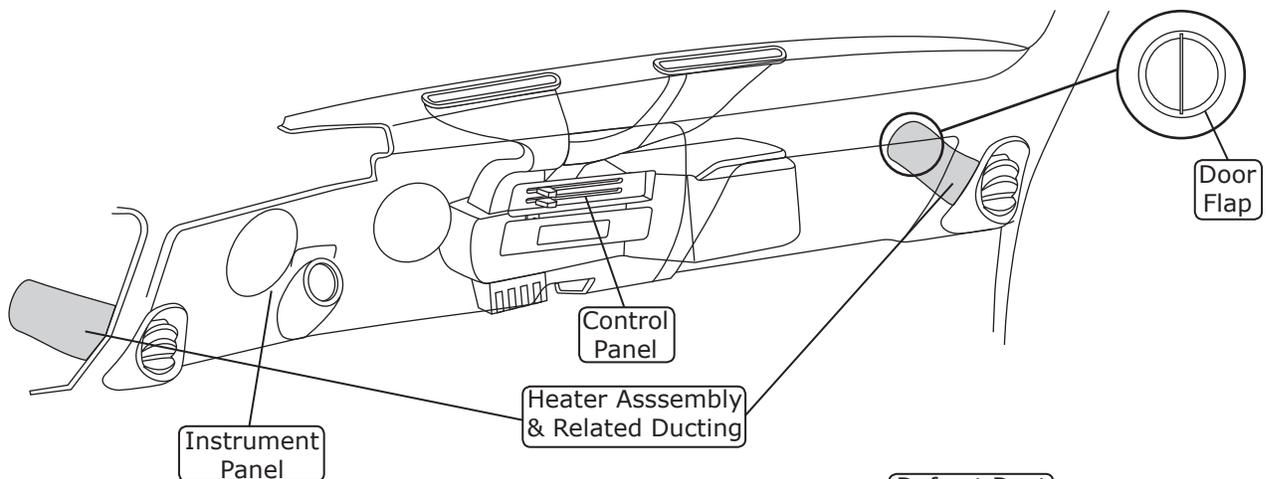

Figure 2
1. Remove the dash pad by removing (6) OEM screws (retain) (See Figure 2, below).
7. Remove all the hoses and ducting from the OEM louvers and astro vent door (if equipped) (See Figure 2, below).